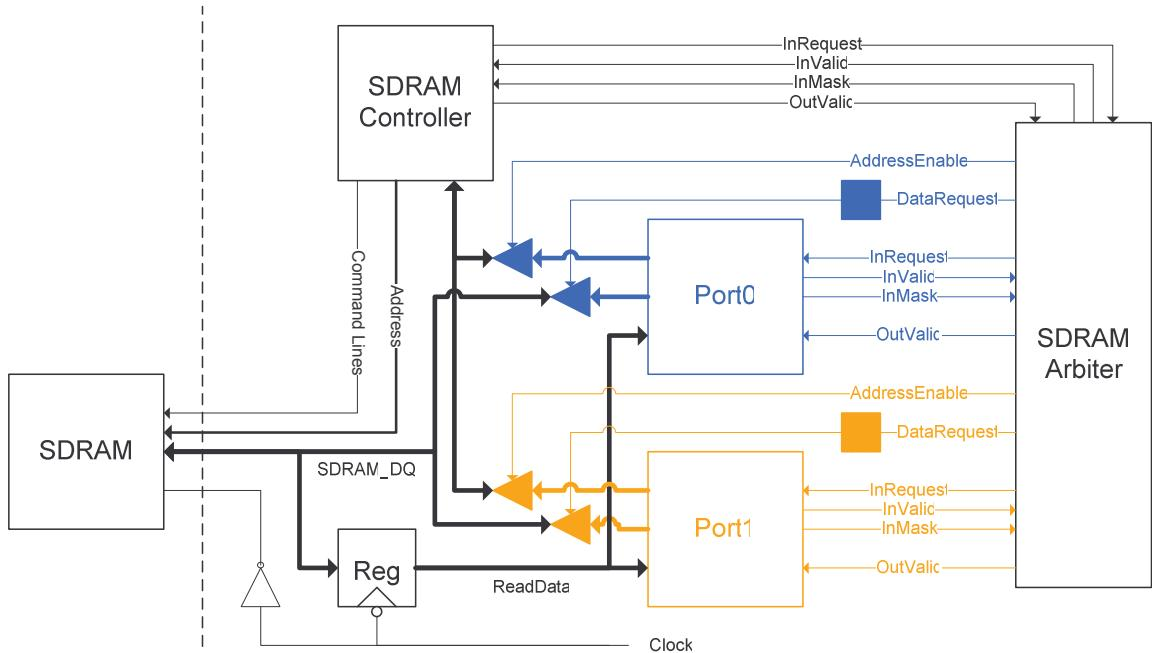

Figure 4: SDRAM Controller and Arbiter Interaction
In addition to figure 4 and 5 above which lay out a rough sketch of the state machine you will need and the connections you will need, you have the following table of
8. In Figure 4 there is a NEGATIVE edge triggered Flip flop in between the SDRAM and Port1/Port0. Make sure that this register is declared as an IO register as in Checkpoint 2 and that a “.Clock(~Clock)” is sent in as the parameter.